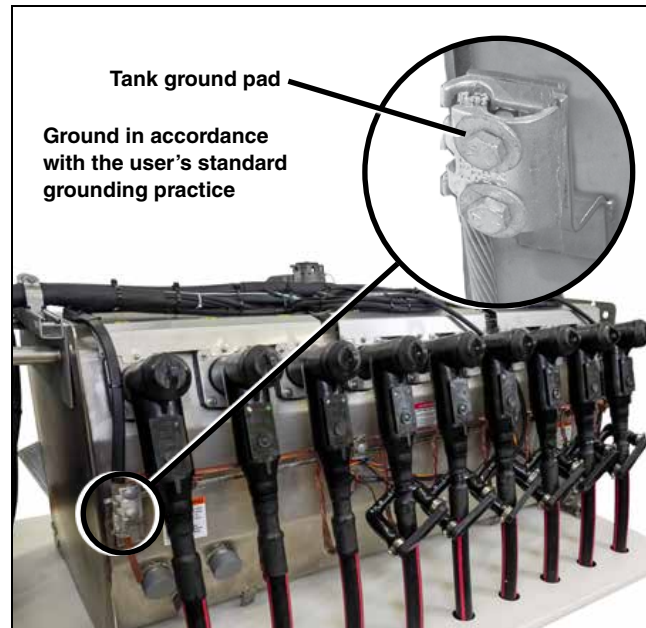

Figure 80. The tank ground pad.
- STEP 1.** Connect the cable concentric-neutral ground wires to the grounding system as appropriate. See Figure 80.
- STEP 2.** Connect the ground pad of the tank to the system ground facility in accordance with the user's standard grounding practice. See Figure 80.